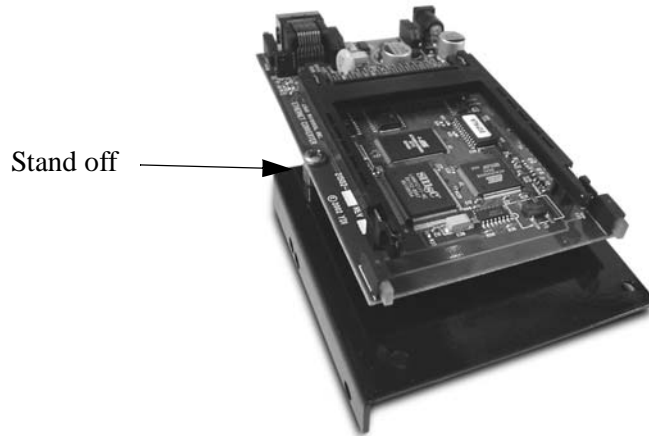

Figure 3. RF Circuit Board and L-bracket
12. Mount RF circuit board to black L-bracket from parts kit using (2) standoffs and bolts (see Figure 3)